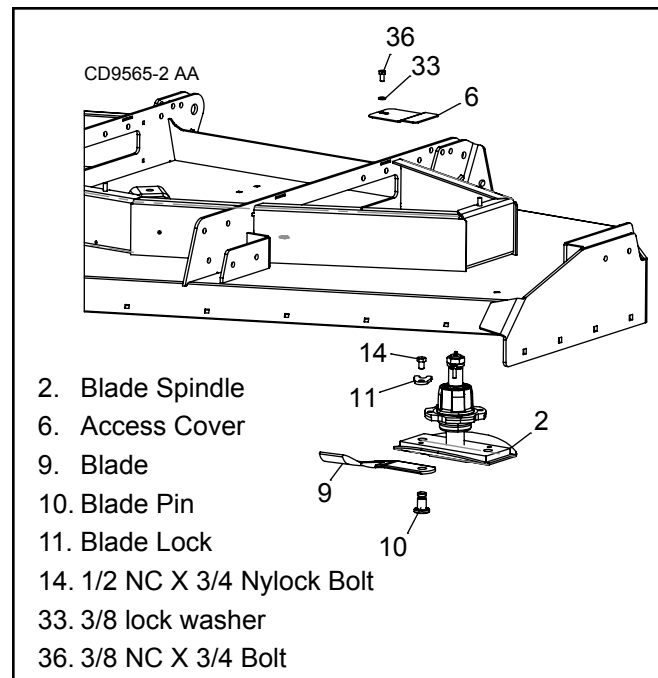

Figure 21. Blade Removal
(Figure 21)
2. Remove 3/8 bolt (16), lock washer, (33) and access cover (6). See Figure 21.
3. Using 3/4 socket and 8" extension, remove Nylock bolt (14).
4. Remove blade lock (11) from groove in blade pin.
5. Remove blade (9) and pin (10) from spindle assembly (2).